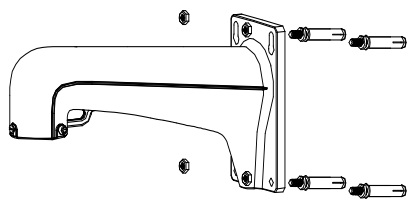

Figure 1-26 Secure the Bracket
- The bracket in Figure 1-26 is the recommended bracket for this series of speed dome, and a pendant adapter is required if any other bracket is selected.